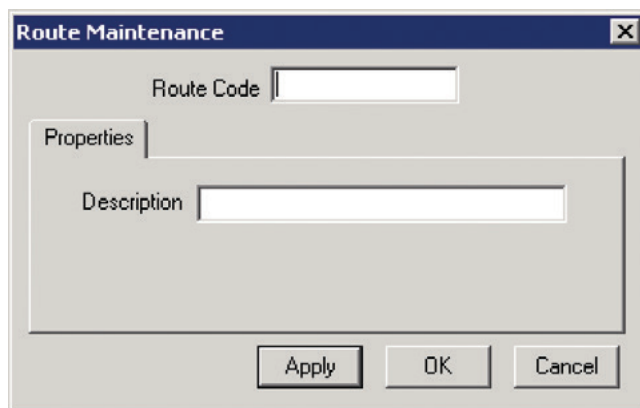

Figure 18. *Route Maintenance*.
2. Right-click the highlighted **Routes** and select **New** to open the *Route Maintenance* dialog (see Figure 18).